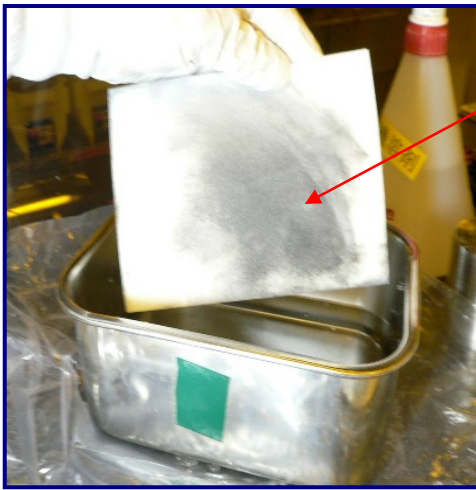

Fig 11: UltraSOLV[®] Sponge loaded with deposition
Step 9: Continue to rinse UltraSOLV[®] Sponge with DI water as sponge begins to load up with deposition (See Fig 11 & 12)